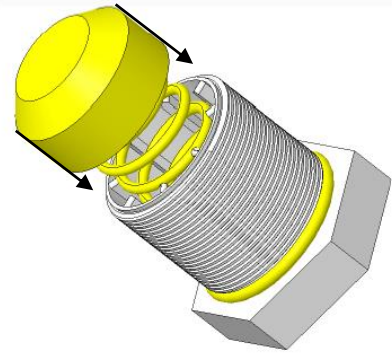

Figure 21
1. Align the spring, cap and plunger, Figure 21